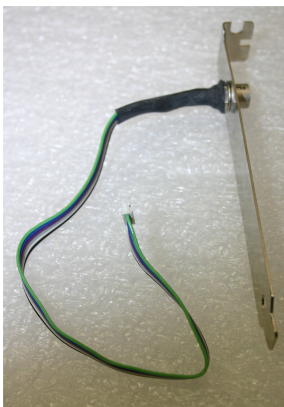
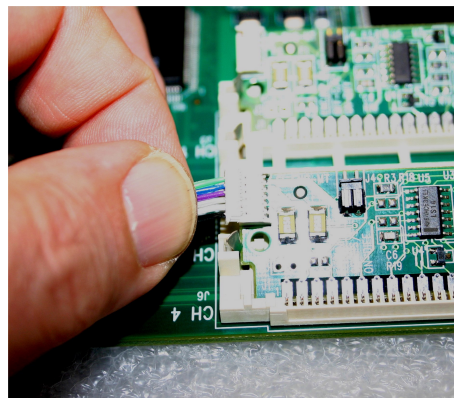

Figure 3.
Figure 4.
**Step 3:** Also in the kit is a computer back panel with a connector attached to a short length of ribbon cable (See Figure 3). The connector at the end of the ribbon cable should be plugged into the receptacle on the end of the Encoder module previously installed (See Figure 4). It is keyed and will only insert one way.